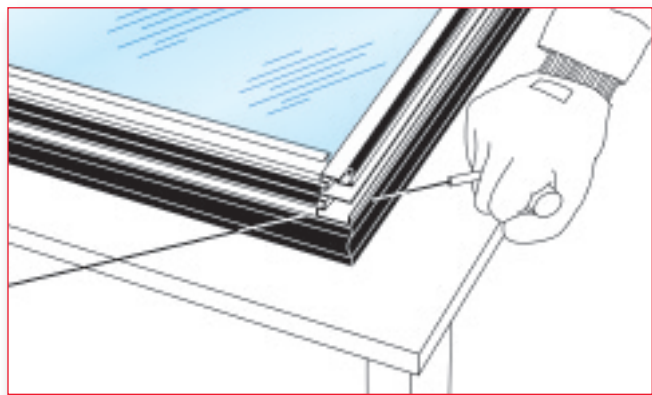
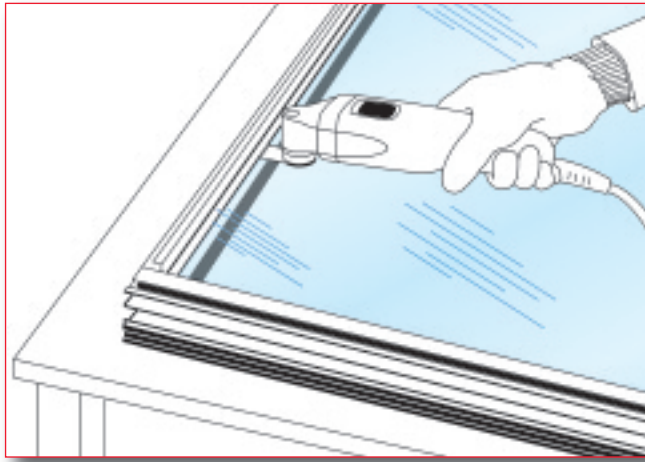

Fig. 18: Cutting through tape with “Piano Wire”
Fig. 19: Automatic sealant cutter
1. Cutting through the 3M™ VHB™ Structural Glazing Tape bondline is the most effective way of separating the glass lite from the structural frame. This will require special tools such as piano wire (Figure 18), an automatic sealant cutter (Figure 19) or a sharp blade to cut through the 3M™ VHB™ Structural Glazing Tape. Use a lubricant such as liquid soap to quicken cutting through the tape. Care should be exercised to avoid damaging of the frame surface or the glass if they are to be used in the re-glazed unit.